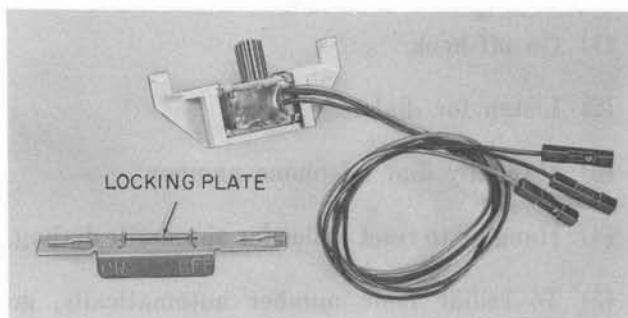

Fig. 7—D-180812 Kit of Parts
- 3.13** Install the D-180812 Kit of Parts (Fig. 7) as follows.